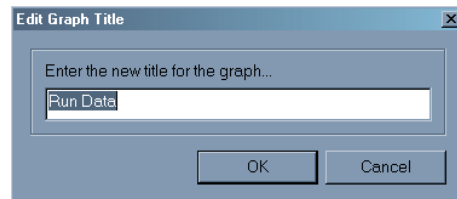

Figure 9. Edit graph title dialogue box
- Double-click with the mouse on the text and enter the new name into the dialogue box (Figure 9).